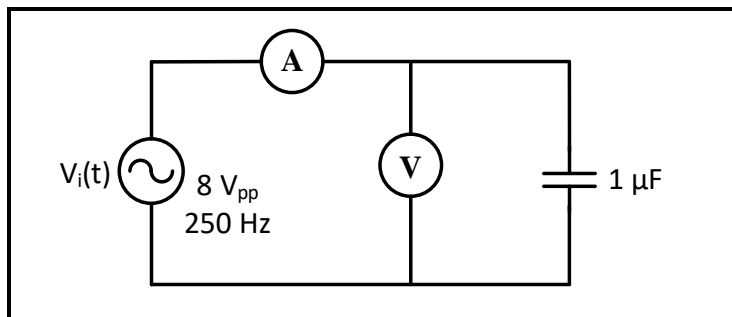

Figure 7.8
2. Connect the circuit in Figure 7.8, set V_{in} to sinusoidal voltage at $8 V_{pp}$, $f = 250$ Hz.
- a. Repeat steps (a) and (b) in (1) for the circuit in Figure 7.8 record results in Table 7.2.